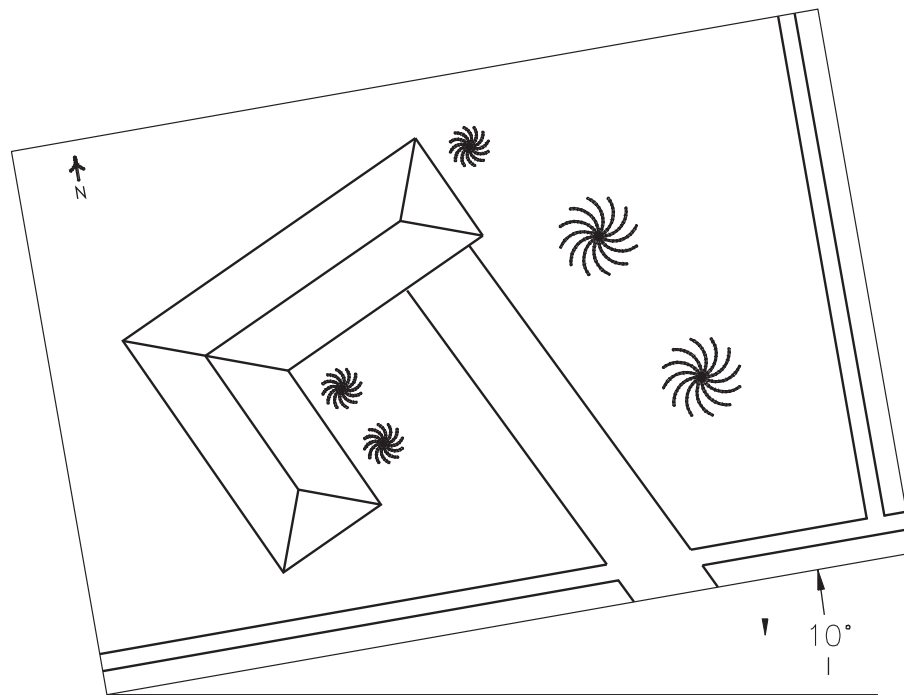

Fig. 18-12
- Place trees and shrubs to complete the site plan drawing. Use the **ARRAY** command to create a tree or shrub, as shown in Fig. 18-12. Duplicate and scale the tree or shrub using the **COPY** and **SCALE** commands.
When you finish, your drawing should look similar to the one in Fig. 18-12.